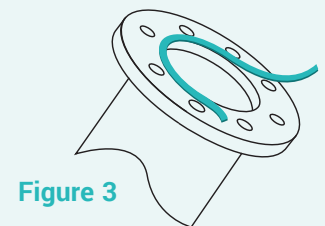

Figure 3
- Position the skived start of the sealant tape close to a bolt hole (figure 3).